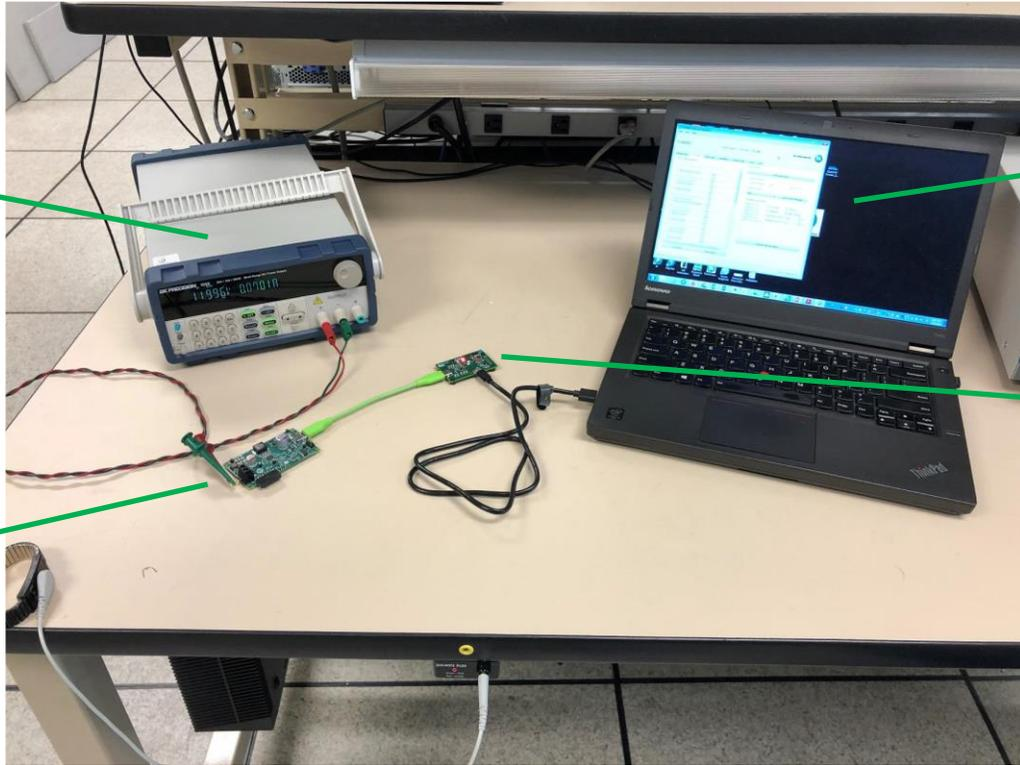

Figure 6 - FUSB3307 and FUSB302 setup
- Connect the Type-C cable between the FUSB3307 EVB and the FUSB302 EVB. The entire test setup is shown in Figure 6.